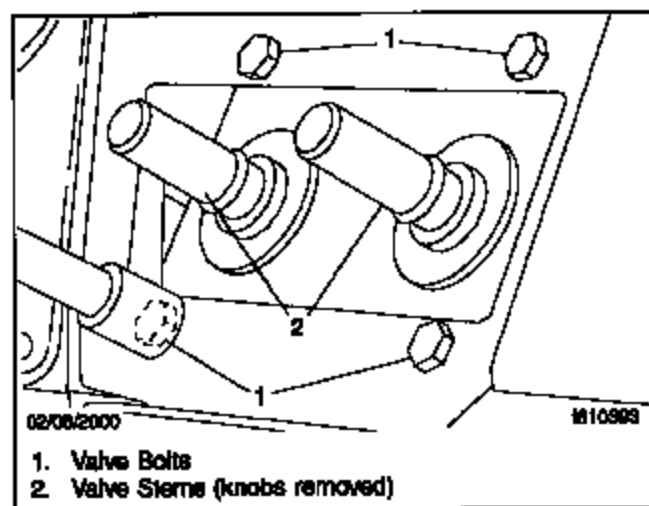

Fig. 3, Valve and Mounting Bolts
8. If not completed in the previous step, remove the four bolts securing the valve to the dash bracket and remove the valve. See Fig. 3. Retain the bolts.